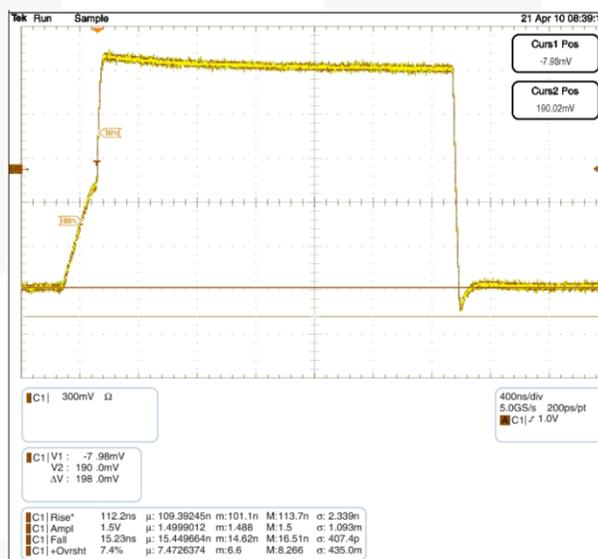

Figure 4. Waveform C: 600pF, Total RPU: 2.2KΩ
$C =$  the bus capacitance. If the FXMAR2104 is attached to the master [on the A port] and there is a slave on the B port, the Npassgates act as a low resistive short between the ports until either of the port's  $V_{CC}/2$  thresholds are reached. After the RC time constant has reached the  $V_{CC}/2$  threshold of either port, the port's edge detector triggers both dynamic drivers to drive their respective ports in the LOW-to-HIGH (LH) direction, accelerating the rising edge. The resulting rise time resembles the scope shot in Figure 4. Effectively, two distinct slew rates appear in rise time. The first slew rate (slower) is the RC time constant of the bus. The second slew rate (much faster) is the dynamic driver accelerating the edge.